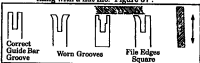

Figure 37
- guide bar is bent or cracked. Figure 37.
- d. Remove burrs by filing side edges of guide bar grooves square with flat file. Figure 37.
- e. Restore square edges to an uneven rail top by filing with a flat file. Figure 37.